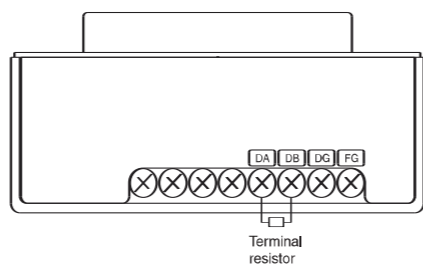

Fig.3
- The appropriate termination resistor differs depending on the CC-Link cable used (Refer to the table and Fig. 3 below.)